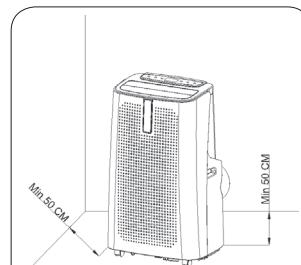

Fig. 4
5. Put the air conditioner in place, providing at least 50 cm of free space around the appliance (Fig. 4).
6. The external connector (20) at the other end of the duct (18) should be mounted in the window using the included mounting kit. You can use one of two types of mounting kits: for hinged and sliding windows.